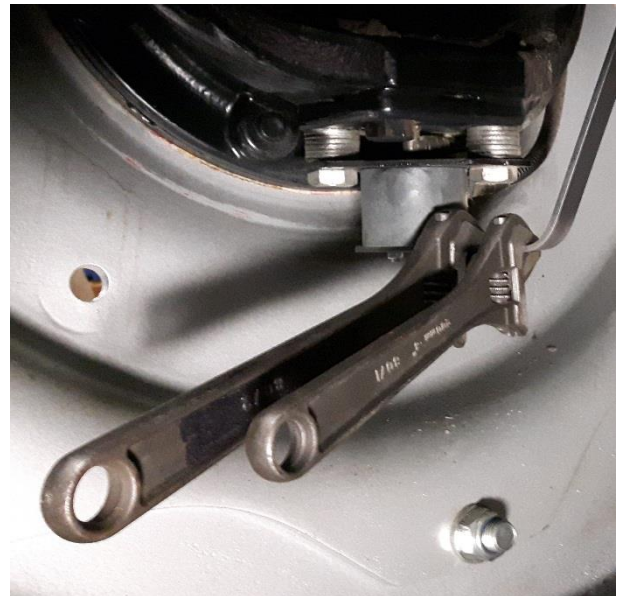

FIGURE 23 BEND THE STRIP WITH THE HELP OF TWO BAHCO'S
10. If necessary, bend the strip a little bit. Two adjustable wrenches are useful tools to do this (Figure 23).